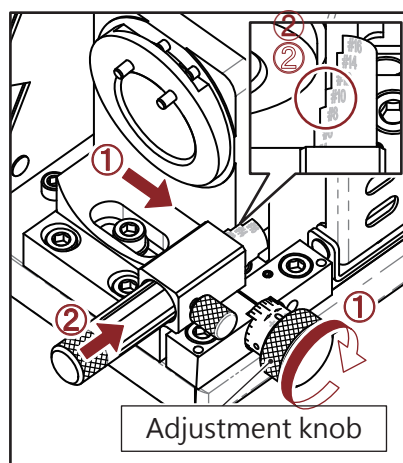

Fig. 5-3
4. Adjust the grinding shelf to the proper position (Fig. 5-3)
- ① Turn the adjustment knob clockwise to move the grinding shelf to the right.
- ② meantime, push the positioning gauge inward so that the left notch corresponding to the specification is in contact with the right side of the grinding shelf.